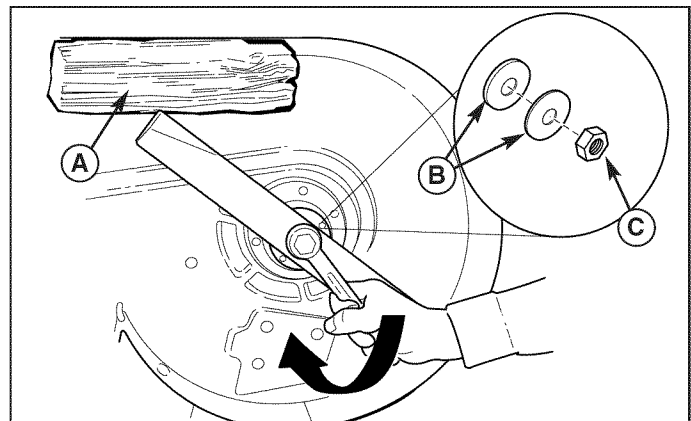
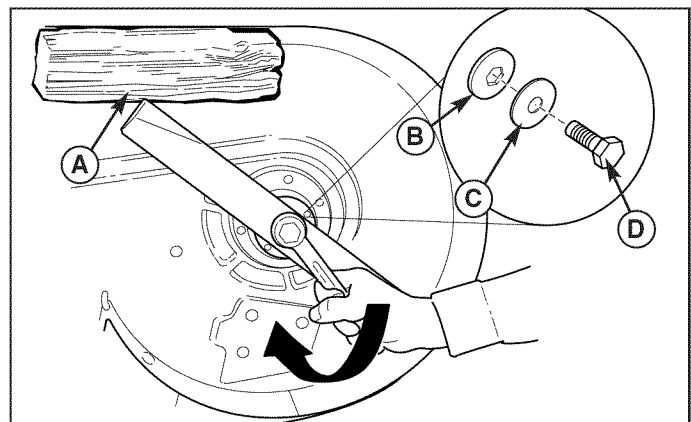

Figure 20. Blade Installation Mowers (38" & 42" Mowers)
Figure 21. Blade Installation Mowers (44" & 50" Mowers)
3. Remove the nut (C, Figure 20), spring washers (B), and blade. Or remove the capscrew (D, Figure 21), hex washer (B), spring washer (C), and blade.
6. Reinstall the blade (Figures 21) with the tabs pointing up toward the mower deck as shown.
7. Reinstall the spring washers (B, Figure 20) and nut (C). Use a wooden block (A) to prevent blade rotation while tightening the nut (C) to 70-80 ft. lbs. (95-108 Nm). Or Reinstall the hex washer (B, Figure 21), spring washer (C) and capscrew (D). Use a wooden block (A) to prevent blade rotation while tightening the nut (D) to 45-55 ft. lbs. (61-75 Nm).